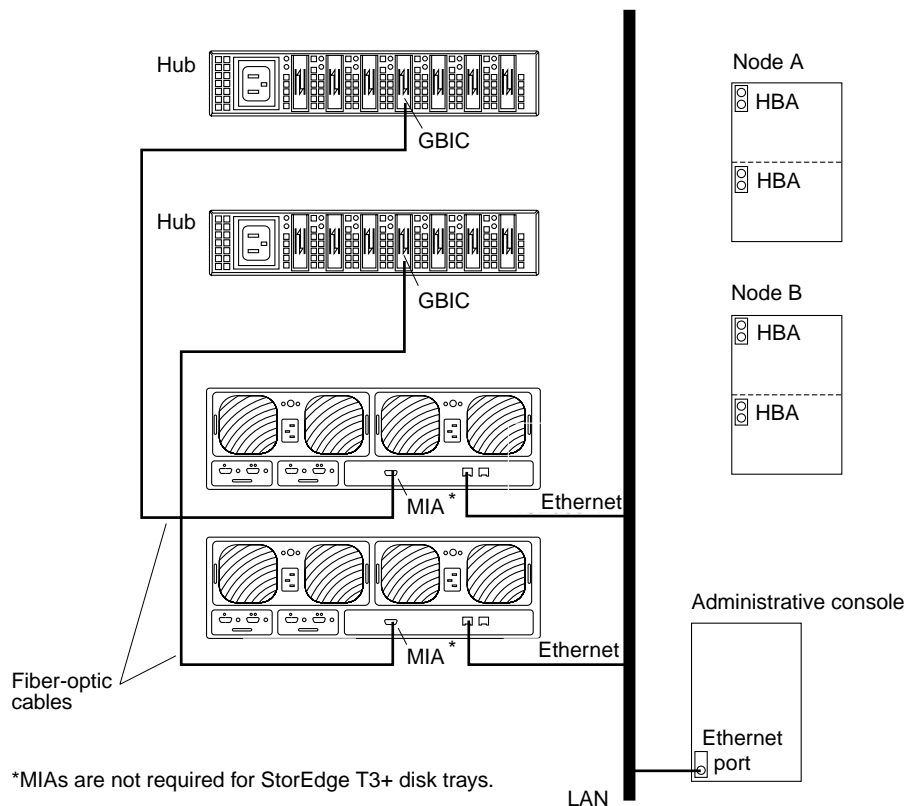

FIGURE C-2 Adding a StorEdge T3/T3+ Disk Tray in a Single-Controller Configuration
2. **(Skip this step if you are adding a StorEdge T3+ disk tray) Install the media interface adapter (MIA) in the StorEdge T3 disk tray you are adding as shown in FIGURE C-2.**
3. **If necessary, install a gigabit interface converter (GBIC) in the Sun StorEdge FC-100 hub as shown in FIGURE C-2.**
4. **Install the Ethernet cable between the StorEdge T3/T3+ disk tray and the Local Area Network (LAN), as shown in FIGURE C-2.**
8. Install a fiber-optic cable between the Sun StorEdge FC-100 hub and the StorEdge T3/T3+ disk tray as shown in FIGURE C-2.
Note – Although FIGURE C-2 shows a single-controller configuration, two disk trays are shown to illustrate how two non-interconnected disk trays are typically cabled in a cluster to allow data sharing and host-based mirroring.